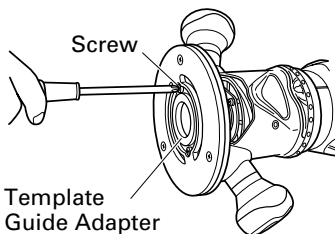

Fig. 8
- (1) Loosen the 2 template guide adapter screws, so that the template guide adapter can be moved. (Fig. 8)